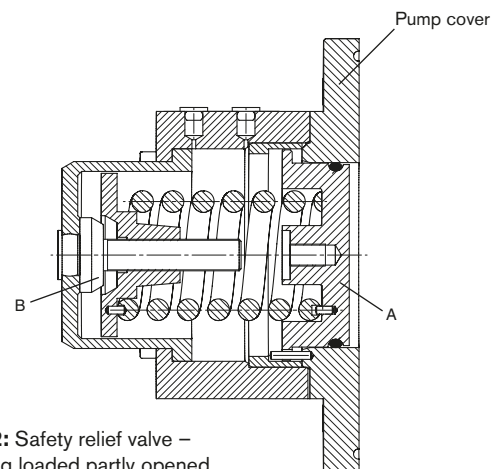

Fig 2: Safety relief valve – Spring loaded partly opened
Fig. 2 shows the valve partly opened. The medium pressure inside the rotor case has forced the valve head (A) to the left against the force of the spring.